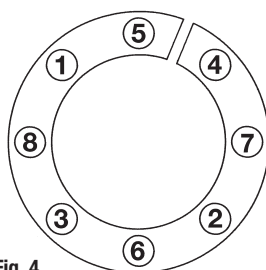

Fig. 4
5. Tighten locking screws gradually and in several stages to specified tightening torque (T_A) using diametrically opposite tightening sequence, however, with following **exception**: The two screws adjacent to the slit in part (a) should be torqued one after the other to avoid possible distortion of the flange, see Fig. 4.